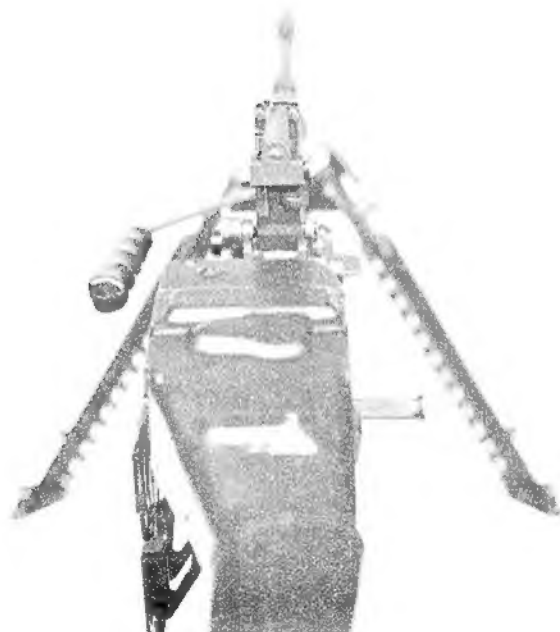

Figure 1-4. — Rear Sight.
**1303. REAR SIGHT.** The rear sight on the M60E3 is identical to that found on the M60 except it is an aperture sight instead of a slot sight (Figure 1-4).